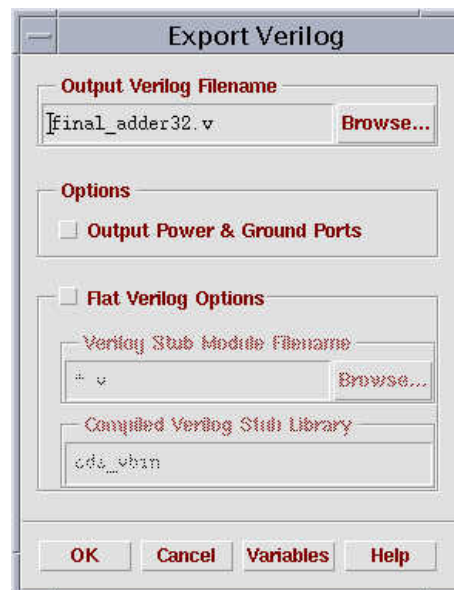

Figure 7-43 Export design in Verilog.
3. Exporting design in Verilog, click on **File→Export→Verilog...** from the menu. The **Export Verilog** form appears. Set the form as figure 7-43 and click on **Ok**.